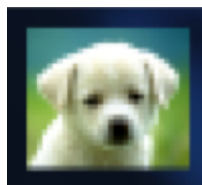

Figure 15. MUT icon
1. On the desktop click the **MUT** icon on the bottom task bar (*Figure 14*) and login with ship credentials. The **LIMS Uploader** window will appear (*Figure 15*).